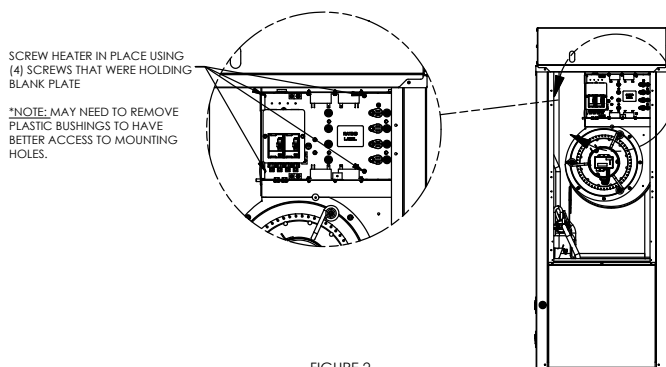

FIGURE 2
5. Insert the heater into the plenum opening. Exercise caution in order to prevent damage to the heater elements. The heater elements should be over the blower wheel opening. Secure the heater in place with the (4) screws that were removed from the plenum filler plate. See Figure 2.